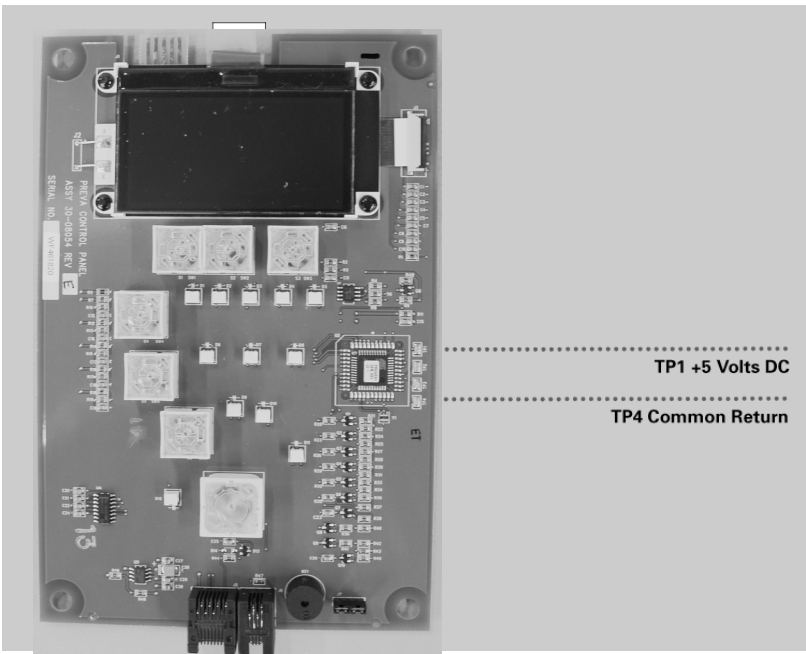

Figure 56
7. If the power supply voltages are present, and the ribbon cable and communication cable are found acceptable, open the Operator Panel case and measure for the presence of +5 volts DC across TP1 and TP4 of the Operator Panel Board, as shown in *Figure 56*. Absence of this voltage indicates the need to reconfirm the power supply voltages and communication cable. Presence of the voltage requires the replacement of the Operator Panel Board.